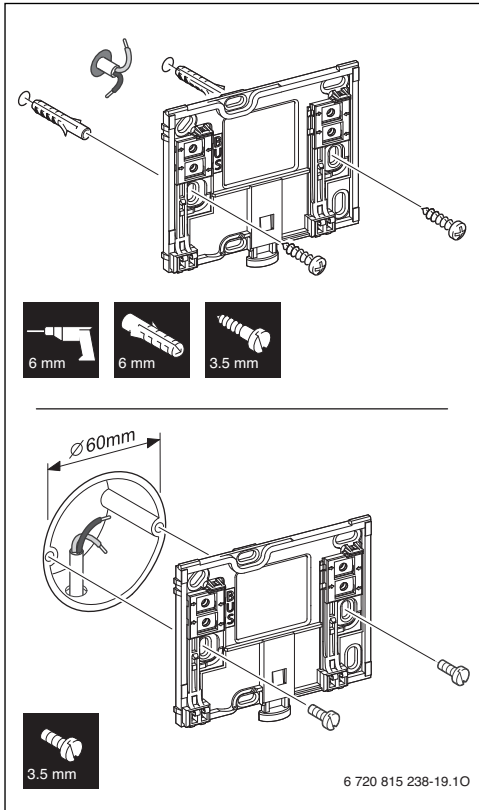

Fig. 5 Installation of Wall mounting plate
- ▶ Install plate on a wall (→ Fig. 5).